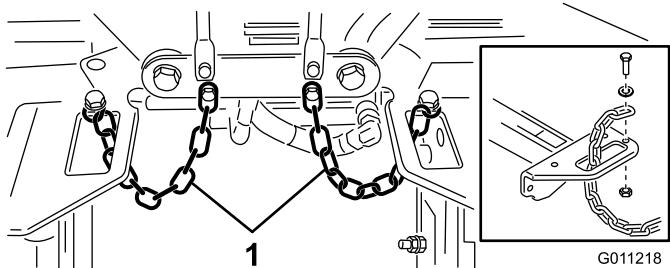

Figure 19
4. Route a tipper chain up through the slot on the end of each carrier frame. Secure the tipper chain to the top of the carrier frame with a bolt, a washer, and a locknut (Figure 19).